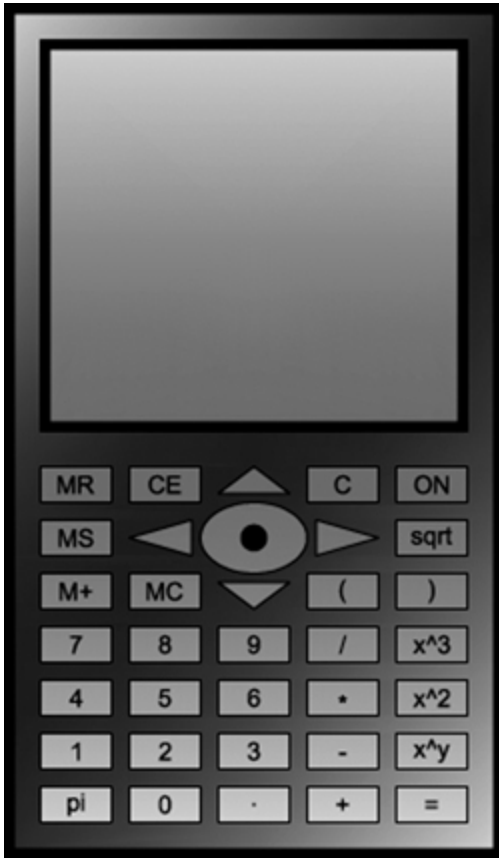

Figure 11-66
2. Add the text shown in Figure 11-66. *Hint:* Use multiline text with the **Middle Center** justification option.